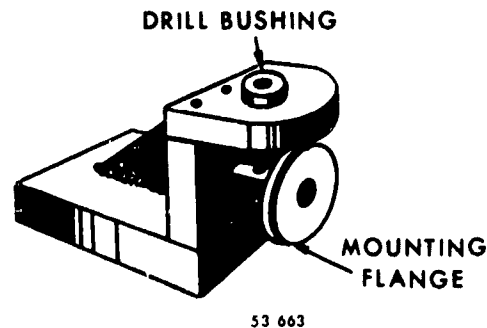

Figure 1-9 Angle plate jig
**Angle plate.** The angle plate jig, shown in figure 1-9, is especially adaptable for locating and drilling holes for setscrews on such parts as collars, pulleys, and gears. This type of jig can be constructed easily, so that it can locate and guide a drill or cutting tool in an angular plane other than vertical.